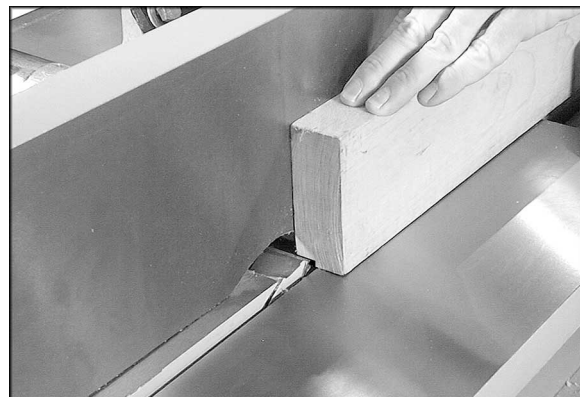

Figure 28
A rabbet is a groove cut along the edge of a workpiece. See Figure 28. The width and thickness of the workpiece used will be dependent upon the desired width and length of the rabbet. However, **never** rabbet a workpiece less than 12 inches long.
4. Reconnect power. Lower the infeed table 1/32" at a time and make successive cuts until the desired depth of rabbet has been obtained. See Figure 28. NOTE: It is easier and safer to take a series of shallow cuts.